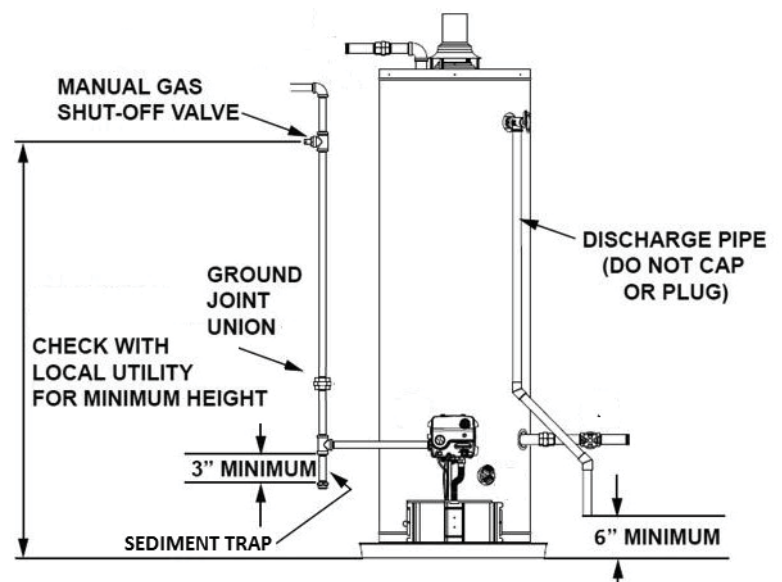

FIGURE 24. PIPING CONFIGURATION
5. Referring to **Figure 24** (page 32), disconnect the ground joint union in the gas piping.